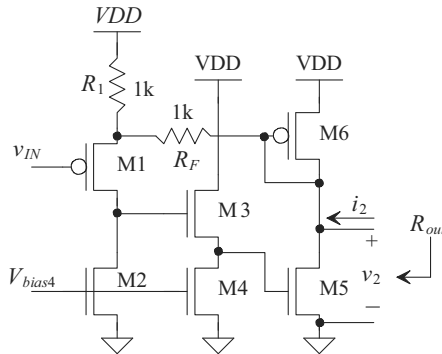

Figure 31.58 Feedback amplifier used in problem 31.15.
31.15 Using the principles of feedback analysis, find the value of the voltage gain, $\frac{v_2}{v_{in}}$ and $\frac{v_2}{i_2}$ for the series-shunt circuit shown in Fig. 31.58.